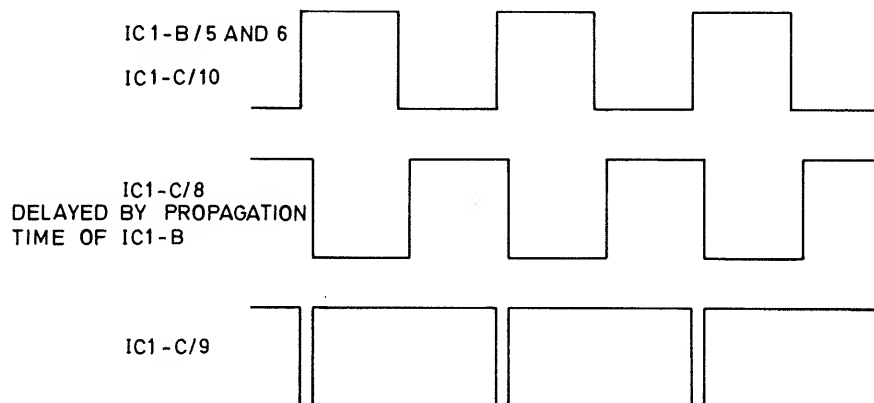

Fig. 5.2 Pulse Generator Waveforms
- 5.3.5.1 The pulse waveform from IC1-D/12, which has the same frequency as the frequency standard in use, is applied to the pulse generating circuit formed by IC1-B and IC1-C. The operation of this circuit is illustrated in Fig. 5.2.